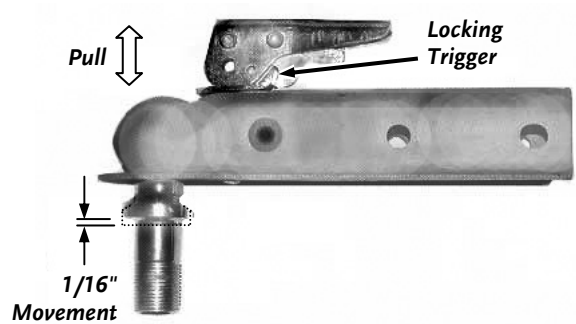

Figure 34
1. Place the proper size ball in the socket of the coupler and close the latch assembly (**Figure 34**). Verify that the locking trigger is properly engaged in its detent.